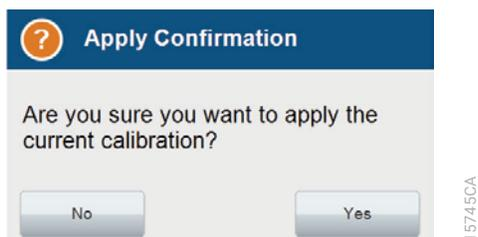

Figure 14. 'Apply Spectral Calibration' confirmation window.
7. After reviewing the results, select **Finish**. This will open a confirmation window. Select **Yes** to apply the spectral calibration results (Figure 14). The spectral calibration results will not be saved unless you select **Yes** on this window.